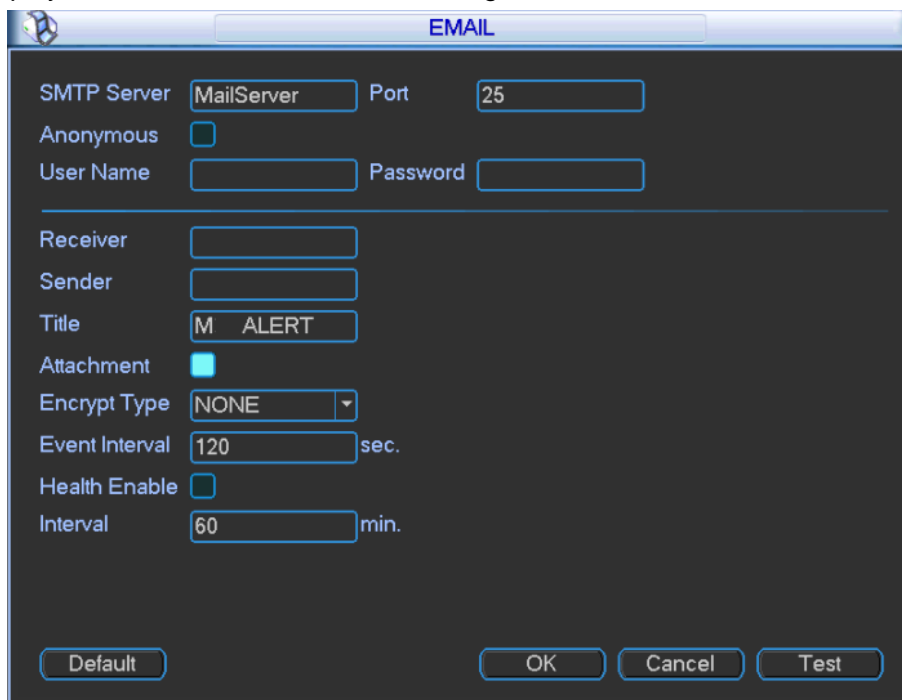

Figure 3-45
Step 1 In main menu, select "Setup> Network> Network Setup > Email", and the system displays "Email" interface, as shown in Figure 3-45.